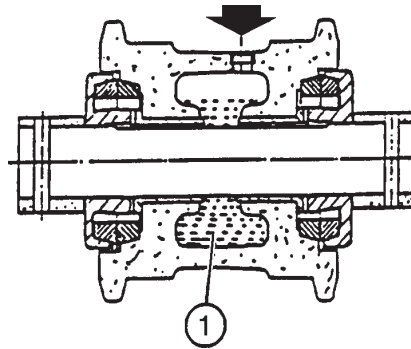

Fig. 3-74 Track roller - oil fill
2. If the air test is satisfactory, with no air leakage around the seals, fill roller with SAE 90 oil through the oil fill hole (fig. 3-74).